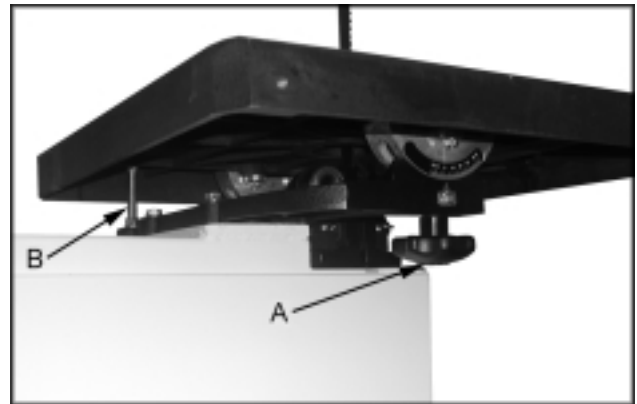

Fig. 13
2. Loosen the lock knobs (A, Fig. 13).
Note: Table stop bolt (B, Fig. 13) must be removed to tilt table to the left.